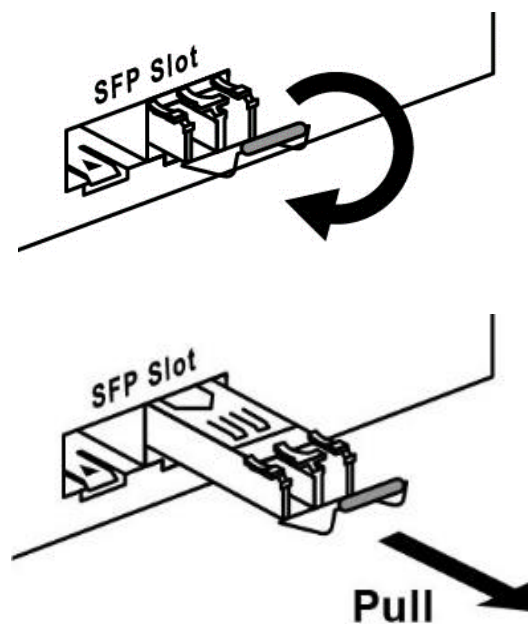

Figure 2.9: Pull Out from the SFP Module
Step 2. Push down the metal clasp and pull the transceiver out by the plastic part as shown below in Figure 2.9